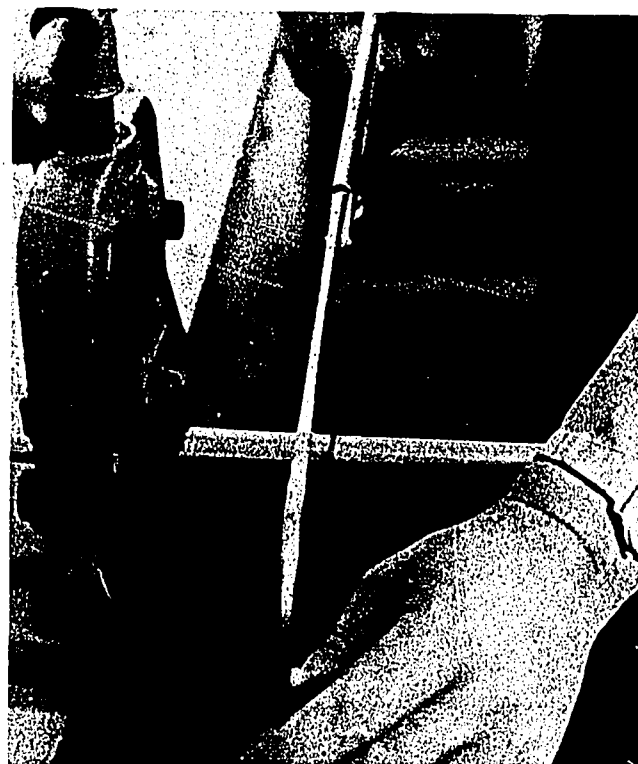

Fig. 53-2. Cutting Thinwall Conduit
2. Saw the conduit 37" long. See Fig. 53-2. Ream it with a pipe reamer or round file as shown in Figs. 53-3 and 53-4.